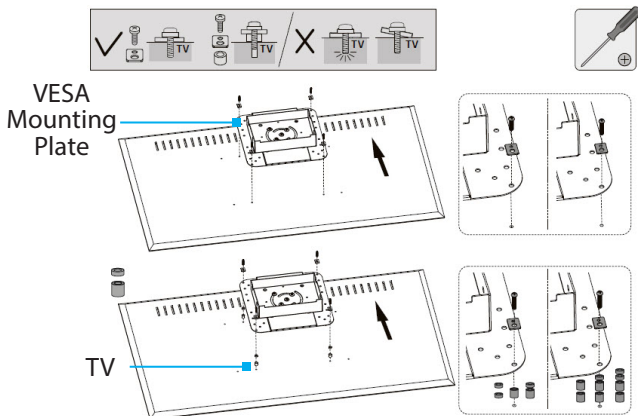

Figure 7
1. Place the **TV** on a padded surface, screen side down, so the back of the **TV** is accessible. (Figure 7)